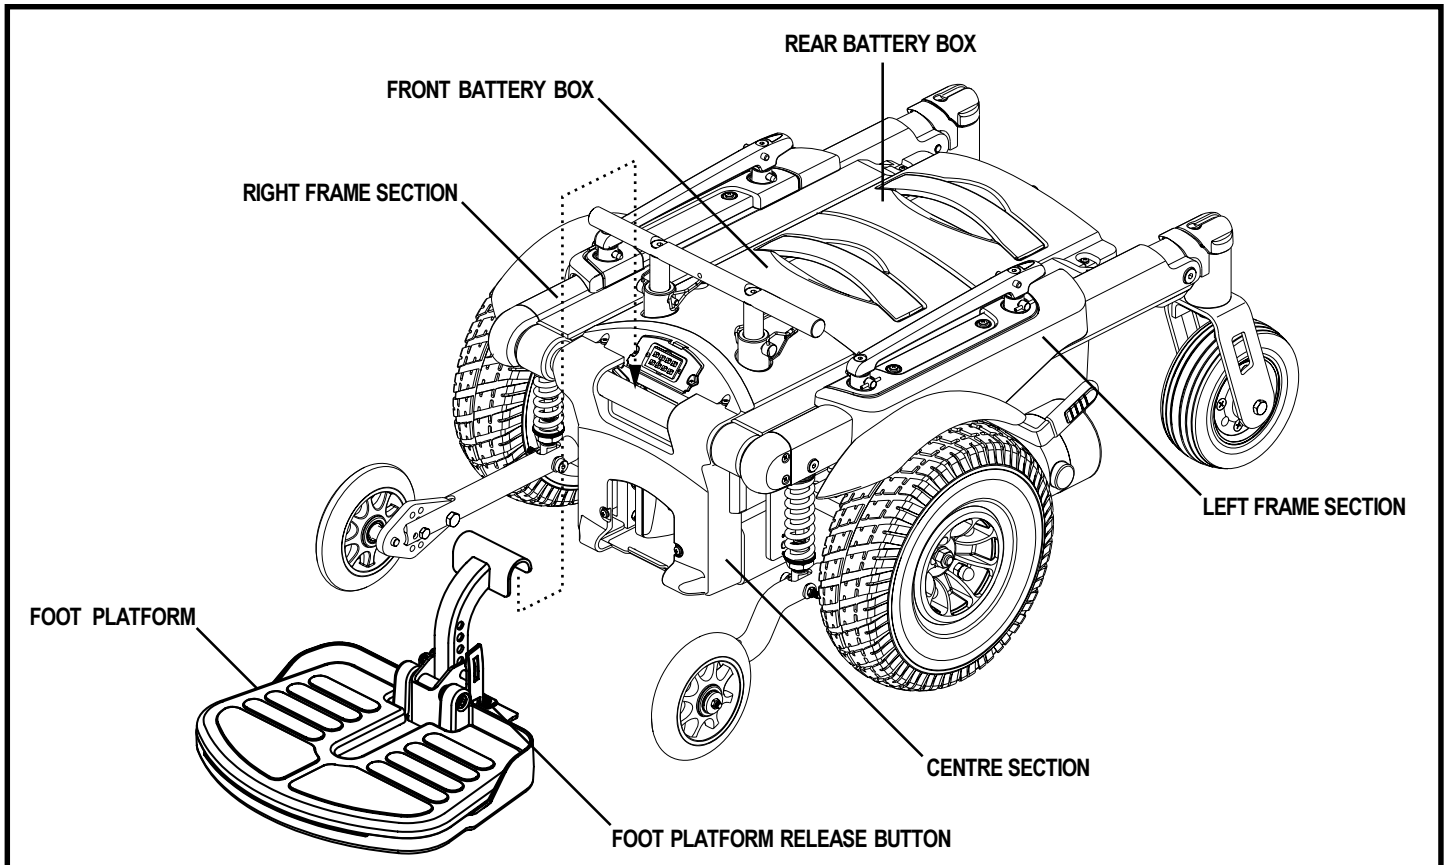

Figure 14. Quantum 1107 Power Base Parts
4. Press the foot platform release button and lift off the foot platform. See figure 14.